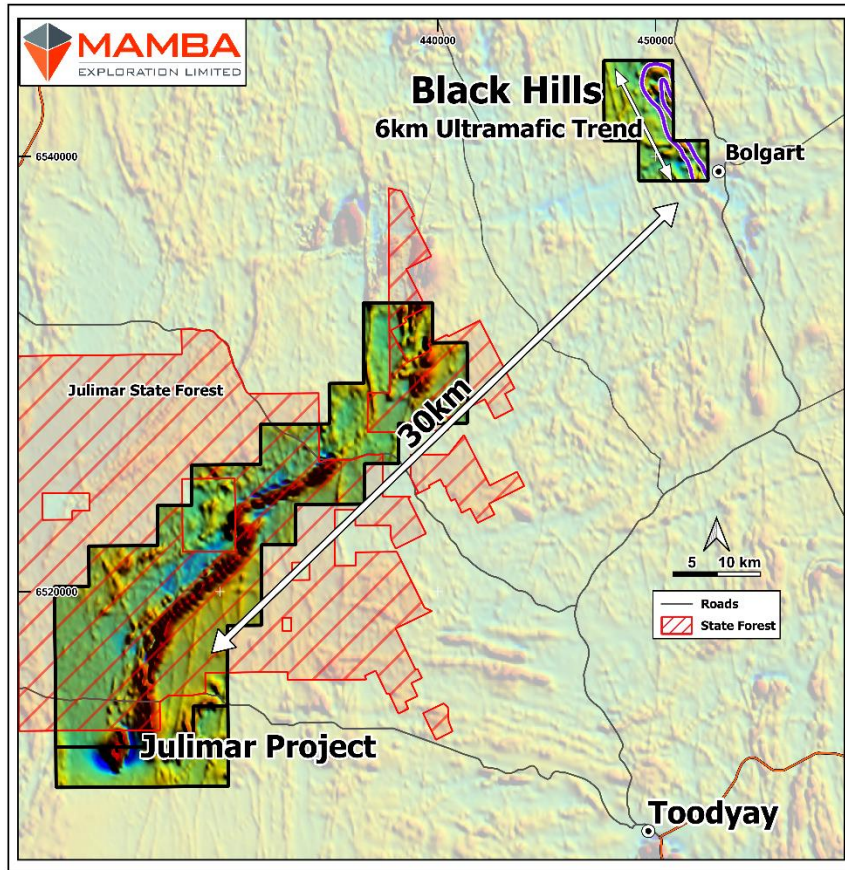

Figure 5: Location of Mamba Exploration’s Black Hills project area in relation to Chalice Mining’s Julimar discovery.
Mamba Exploration Limited (ACN 644 571 826) (**'Mamba'**, **'M24'** or the **'Company'**) is pleased to announce that detailed modelling of electromagnetic (EM) and detailed 3D inversion modelling of the magnetic data has confirmed the priority target at the Company's Black Hills Project located approximately 30km North-East of the Julimar PGE-Ni-Cu-Co-Au deposit discovered by Chalice Mining (See Figure 5).